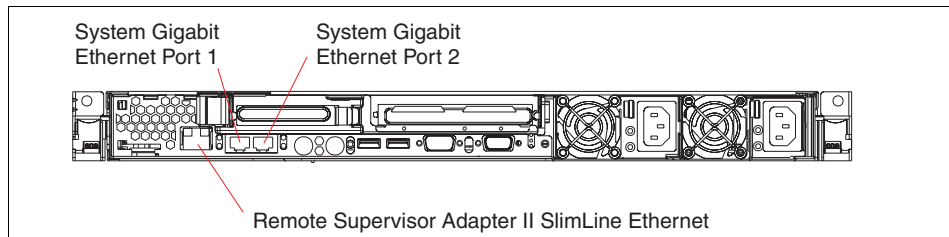

Figure 2-10 Rear ports of the xSeries 336
- ▶ x336: Figure 2-10 on page 20